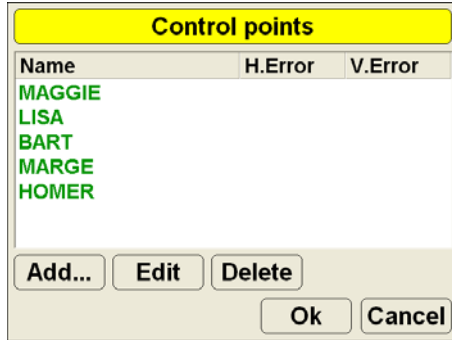

Figure 3-7. Save Control File After Adding Control Points
8. After adding all control points (Figure 3-7), press **OK** to save the control points file.